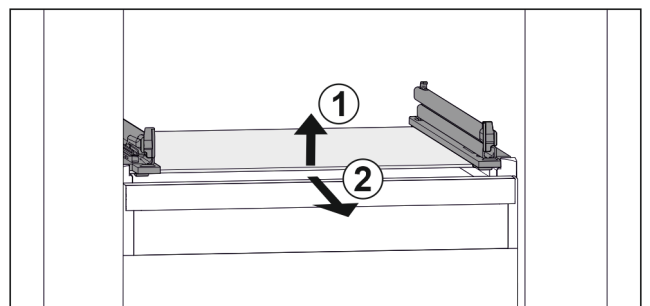

Fig. 111 Example illustration of glass shelf
- ▶ Lift glass shelf at the front. *Fig. 111 (1)*
- ▶ Take out glass shelf to the front. *Fig. 111 (2)*